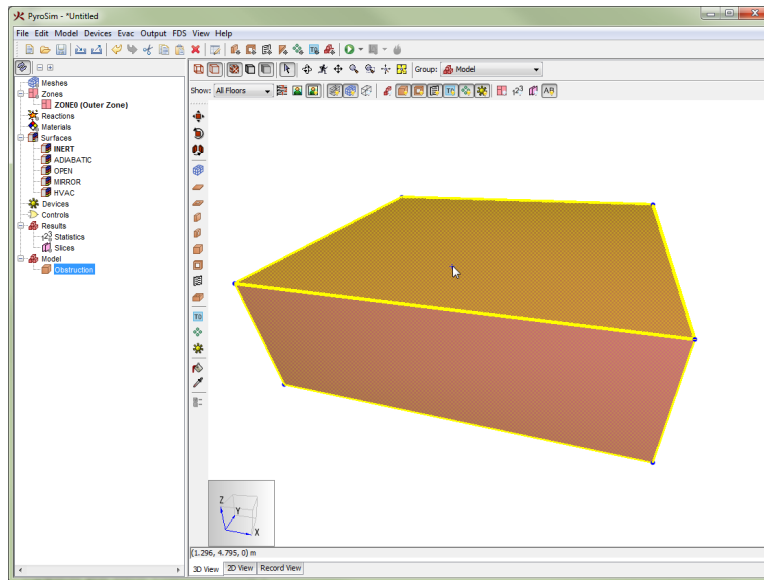

Figure 89. A highlighted face handle
3. Hover the cursor over the desired handle. If the handle is a dot, it will turn yellow. If the handle is a face, the entire face will turn yellow as shown in Figure 89.